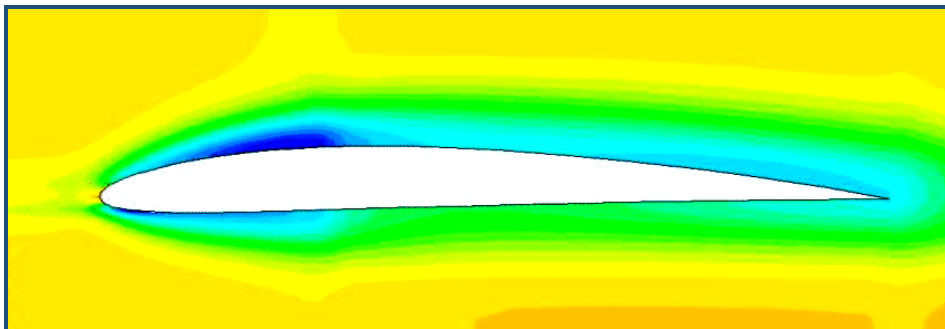

Figure 5.2: Flow over a Cambered aerofoil
5. Analyze the results using the Ansys CFD post to get the flow contour as shown in Figure 5.2.